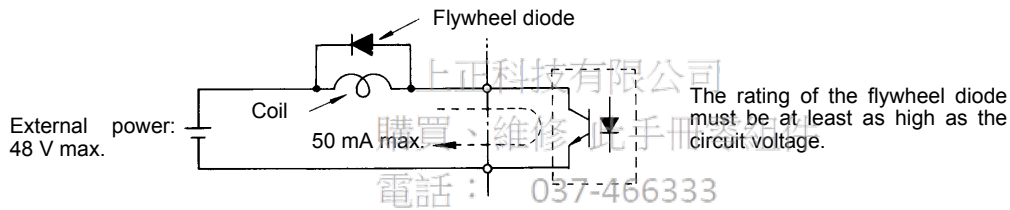

Fig 2.14 Flywheel Diode Connection
- * 2. When driving a reactive load, such as a relay coil, always insert a flywheel diode as shown in Fig 2.14.